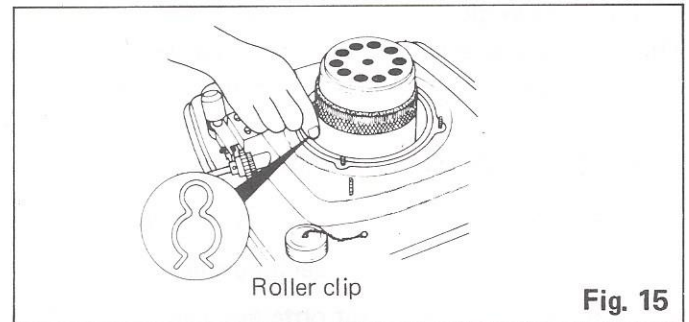

Fig. 15
6. Remove the wick casing packing and take out the small clip that holds the roller in place. (Fig. 15)